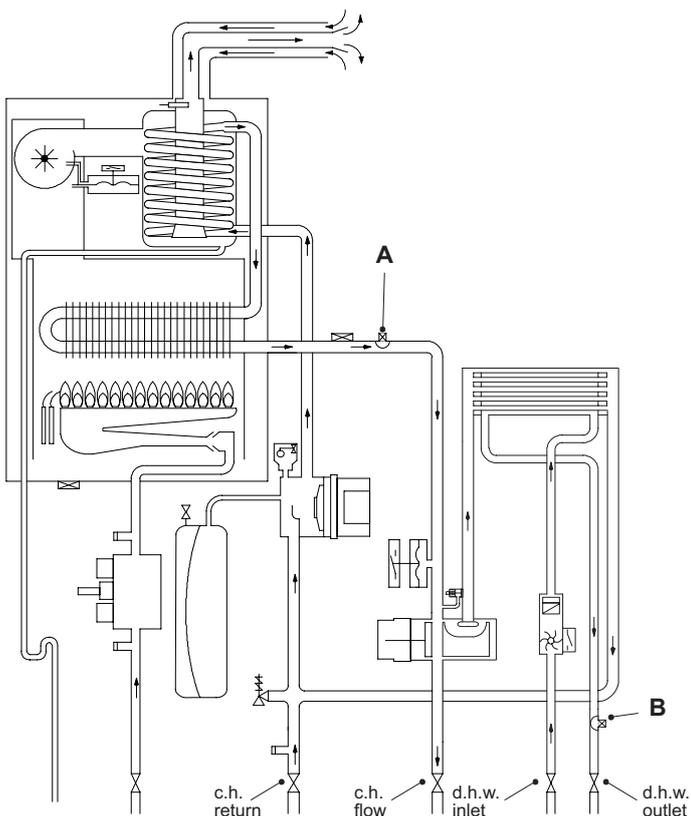
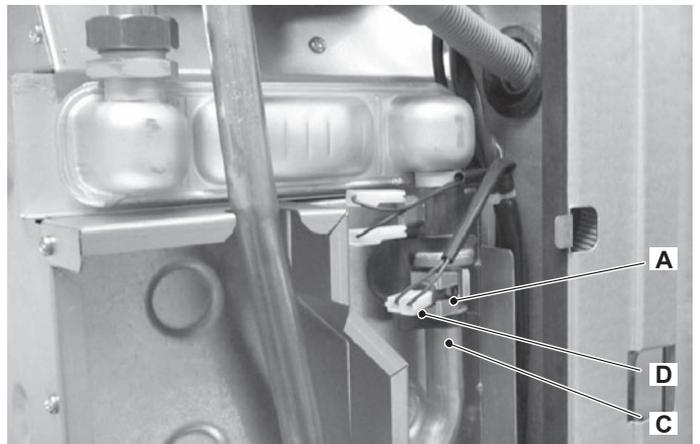
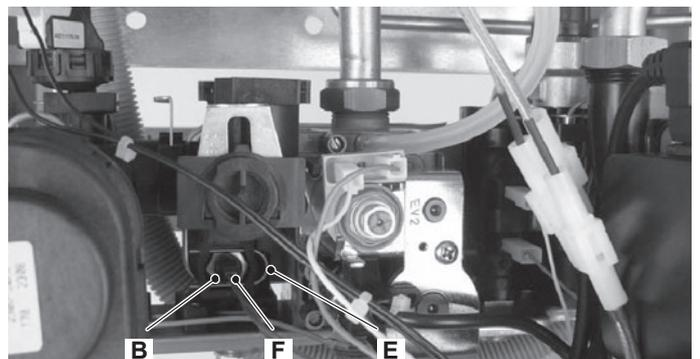

Figure 15.2
Figure 15.3
Figure 15.4
On the boiler there are two Temperature probes. One on the output of the primary heat exchanger (c.h. temperature probe) A in Figure 15.2 and Figure 15.3; one on the output of the d.h.w. heat exchanger (d.h.w. temperature probe) B in Figure 15.2 and Figure 15.4.
2 Remove the electric connector D and remove the c.h. Temperature probe A (Figure 15.3).
3 Remove the fixing spring E (Figure 15.4).
- 4 Remove the electric connector F and unscrew the d.h.w. Temperature probe B (Figure 15.4).